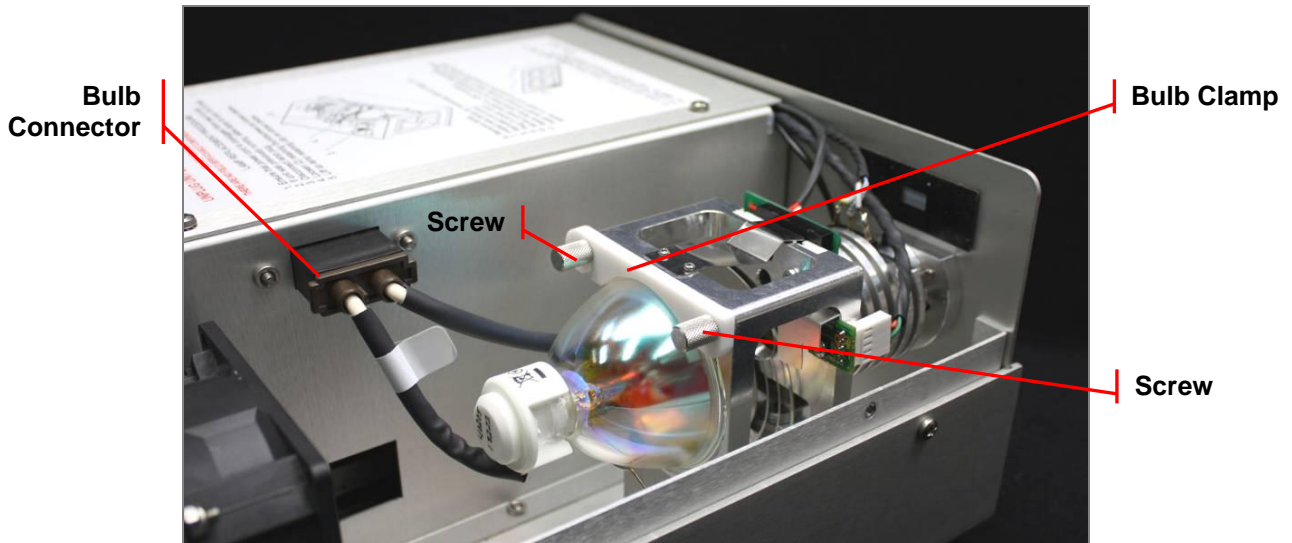

Figure 10. Bulb Replacement Step 1-2
2. Unplug the Bulb Connector and loosen the two knurled screws shown in Figure 10. Pivot the white Bulb Clamp up and out of the way to allow removal of the Bulb.